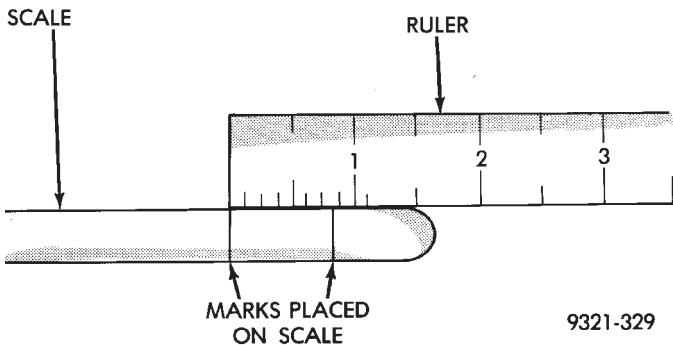

Fig. 354 Measuring Marks on Scale
- (7) Measure the distance between the two marks placed on the scale (Fig. 354). If the two marks on the scale are more than one inch apart, replace the drive chains.